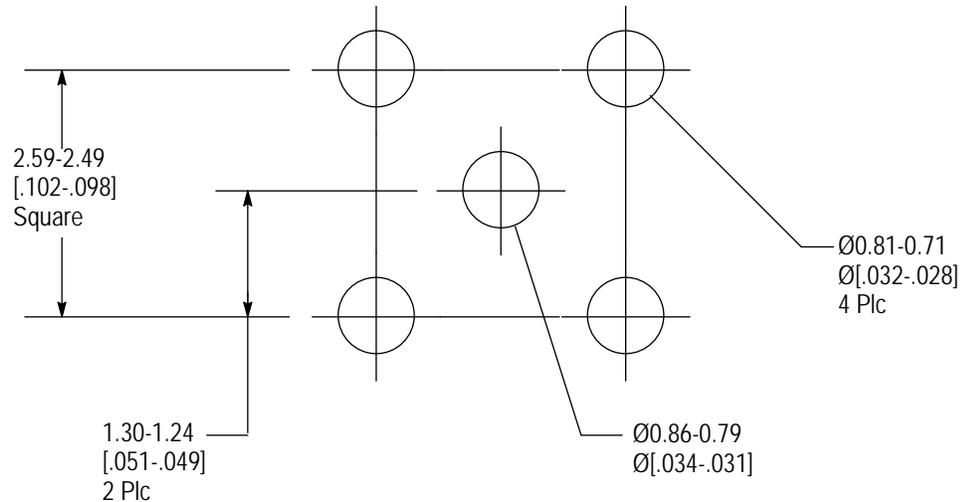
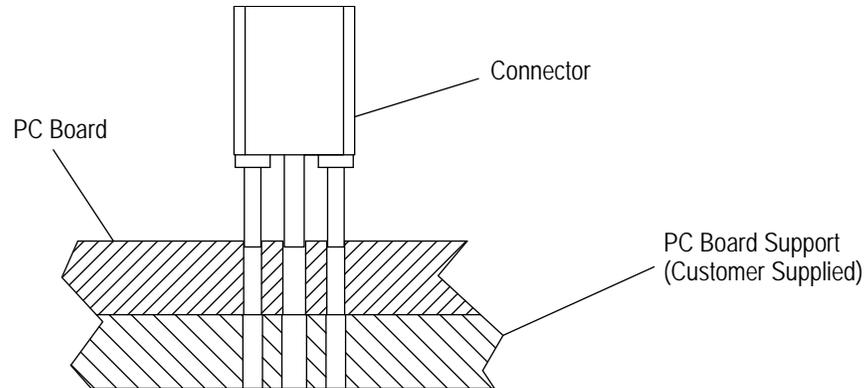

Figure 2
Figure 4
The mounting and contact holes in the pc board must be precisely located to ensure proper placement and optimum performance of the connector. Design the pc board using the dimensions provided in Figure 2.
*The layout shown in Figure 2 applies to the connector side of the pc board.*
A customer-supplied pc board support shall be used in conjunction with the seating tool, see Section 5, TOOLING. The board support shall meet the requirements of Figure 4. Use the dimensions given in Figure 2 to determine hole locations for the support.